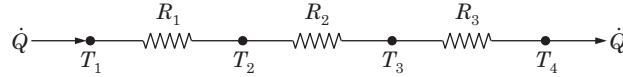

Fig. 1.10 Resistances in series.
1.8.1 Resistances in Series. When resistances are in series, as shown in Fig. 1.10, then heat transfer rate through all the resistances is the same. There is a temperature drop through every resistance. Then